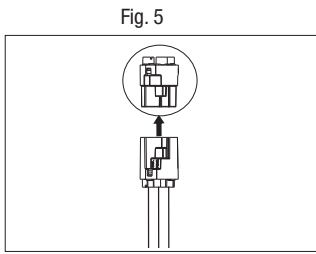

Fig. 5
3. Locate the white quick disconnect located on the driver supply leads and remove the male half that has no leads attached (Fig. 5).
- D. Grip black supply wire firmly and push conductor into port marked with black circle and letter "B" on the connector (Fig. 5).
- E. Grip white supply wire firmly and push conductor into port with white circle and letter "W" on the connector (Fig. 5).
- F. Grip ground supply wire firmly and push conductor into port with green circle on the connector (Fig. 5).